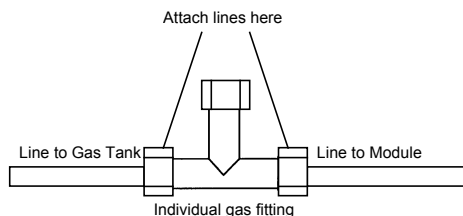

Figure 16. Connecting Gas Lines
- 2 Attach the Individual gas fitting between the line to the gas tank and the line to the module (Figure 16).